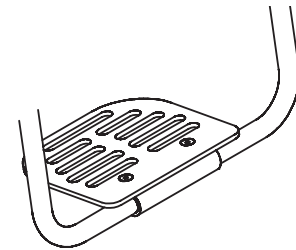
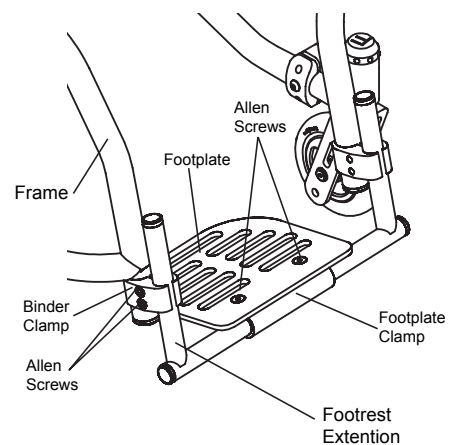
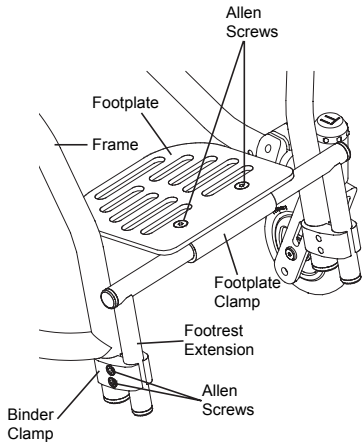

Figure 8
Figure 9
Figure 10
2. Adjust the footrest to desired angle. See Figure 8.
The Angle Adjustable Footrest (see Figure 8) for TR Series, YR Series, Evo and BB chairs can be replaced or the height adjusted by using the tools and following the procedures under “Titanium Footrest with Flat ABS Cover (TR, YR and BB)” on page 25.
The Angle Adjustable Footrest (see Figure 8) for ZR Series chairs can be replaced or the height adjusted by using the tools and following the procedures under “Titanium Footrest with Flat ABS Cover (ZR Series)” on pages 26-27.
The Angle Adjustable Footrest (see Figure 8) for Aero Z chairs can be replaced or the height adjusted by using the tools and following the procedures under “Titanium Footrest with Flat ABS Cover (Aero Z)” on page 27.
1. Loosen the Allen Screws in the two binder clamps that secure the footrest extension to the frame. See Figures 9 and 10. If replacing the footrest, loosen the Allen Screws sufficiently to permit you to completely remove both footrest extensions. If adjusting the height of the footrest, loosen the Allen Screws sufficiently to permit the footrest extensions to move up and down freely within the binder clamps. You can also raise or lower the position of the clamp on the frame to achieve a greater range of adjustability.
Note Regarding High Mount Footrests: The Angle Adjustable High Mount Footrests on the TR Series, YR Series and the Evo may be clamped with the tubes in a downward position (see Figure 9), or they may be attached in an upward position (see Figure 10) in order to increase the range of adjustability. This adjustment is not possible with the Evo or the TR with "C" package if your chair has a tapered frame.
The angle of the 1-Piece Angle Adjustable Rigid Footrest (see Figure 8) and of the 1-Piece Angle Adjustable Rigid High Mount Footrest (see Figures 9 and 10), can be adjusted by using the tools and following the procedures under "Angle Adjustable Footrest (TR Series, YR Series, ZR Series, Aero Z, BB and Evo)" on page 28.
The 1-Piece Angle Adjustable Rigid Footrest (see Figure 8) can be replaced or the height adjusted by using the tools and following the procedures under "Titanium Footrest with Flat ABS Cover (TR, YR, and BB)" on page 25.
The 1-Piece Angle Adjustable High Mount Footrest (see Figures 9 and 10) can be replaced or the height adjusted by using the tools and following the procedures under "Angle Adjustable High Mount Footrest (TR Series, YR Series and Evo)" on pages 28-29.